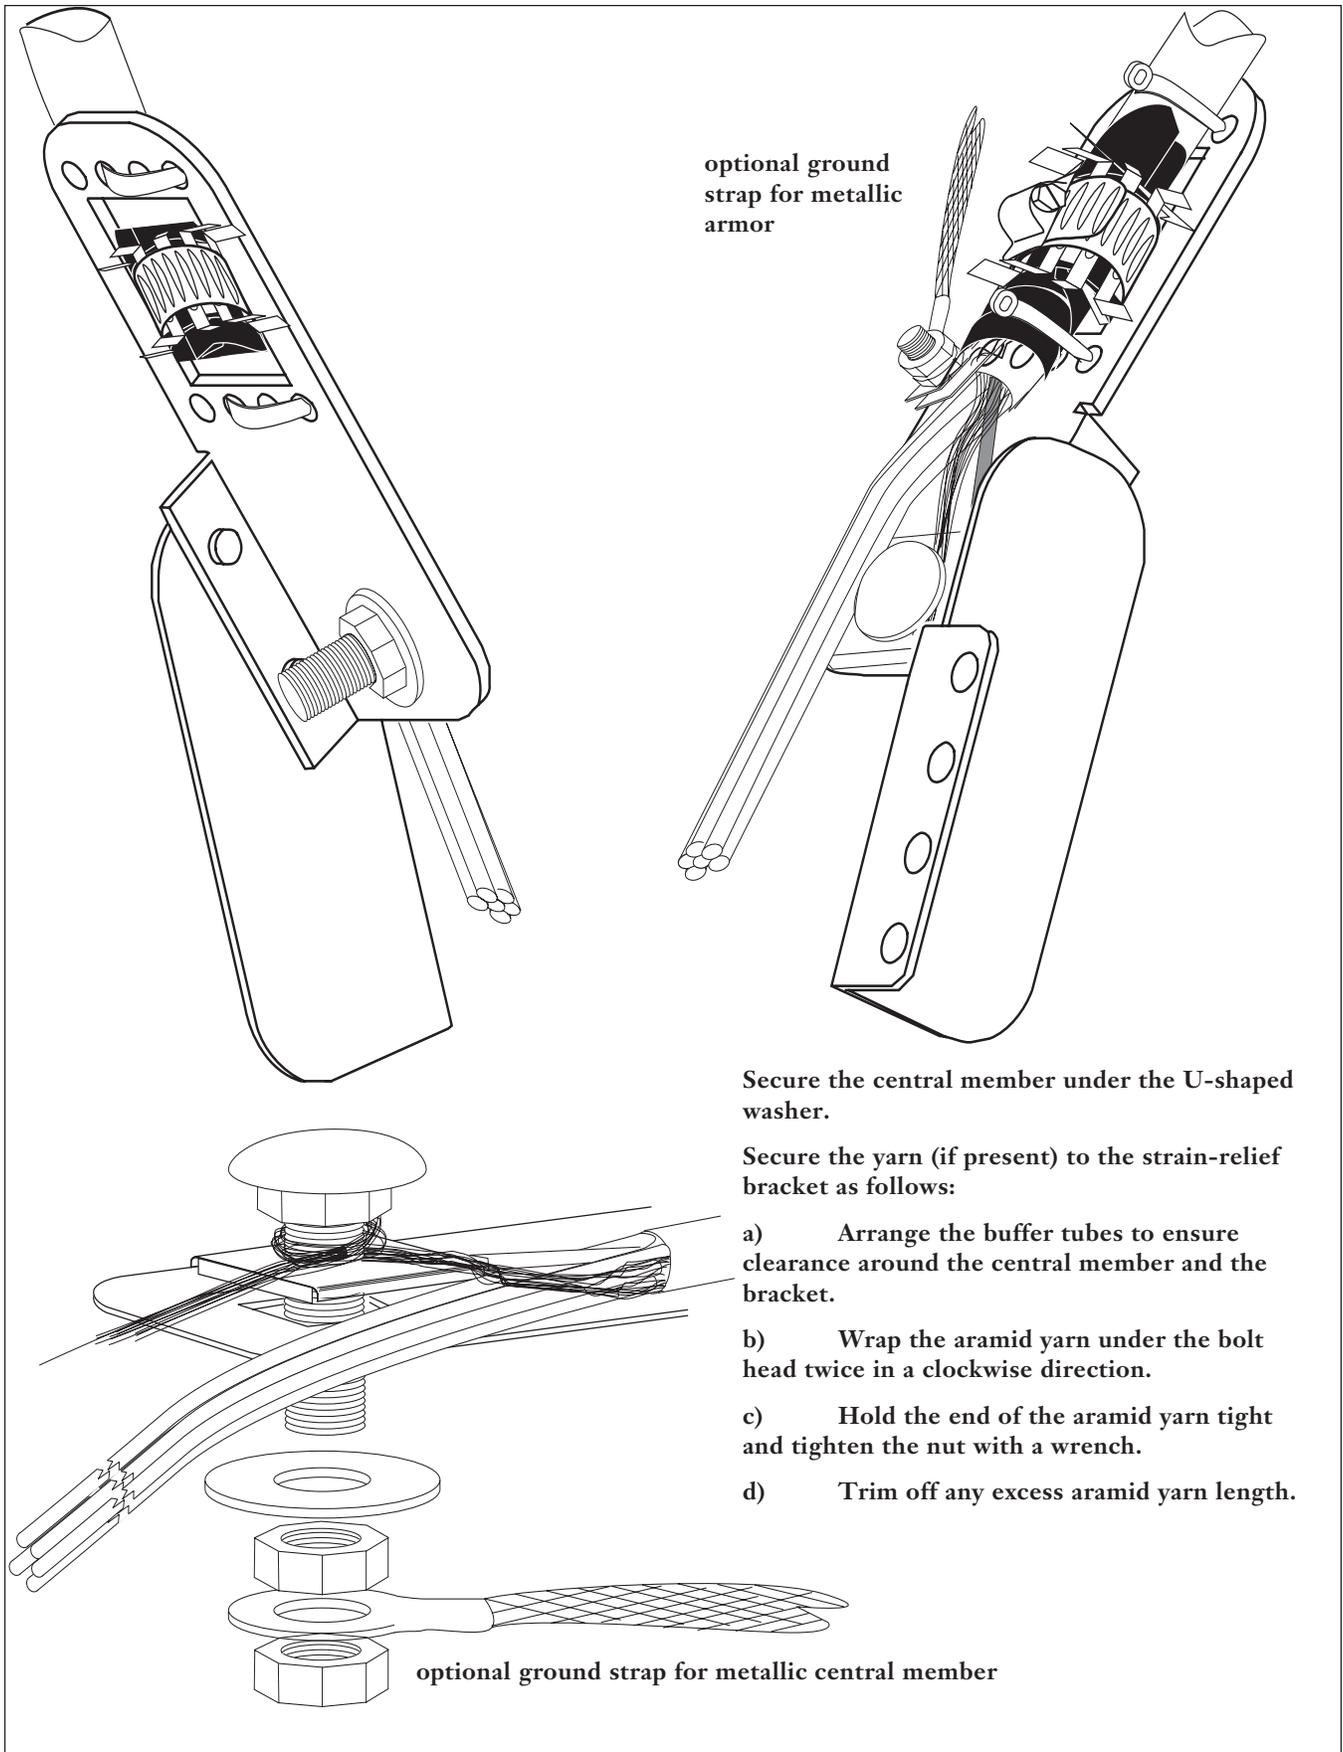
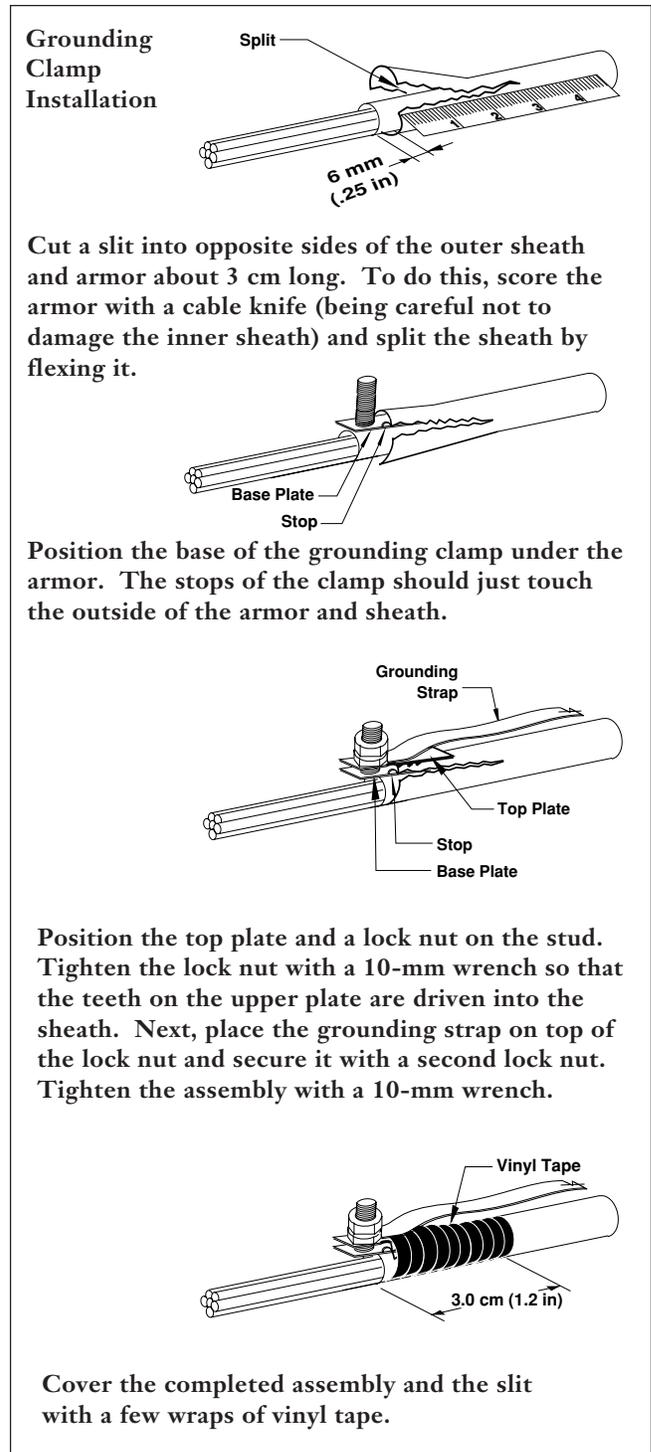

Figure 14
Figure 16
8.5 Fiber optic cable with metallic central member can be grounded directly to the strain-relief bracket on the side of the drawer assembly as illustrated in Figure 14. Ground metallic cable sheath using a ground clamp (Figure 16). This clamp is generally installed below the sheath retention clamp on the strain-relief bracket. Be sure to ground the clamp to the HDF ground wire and the HDF ground wire to an earth ground with a No. 6 AWG copper conductor.